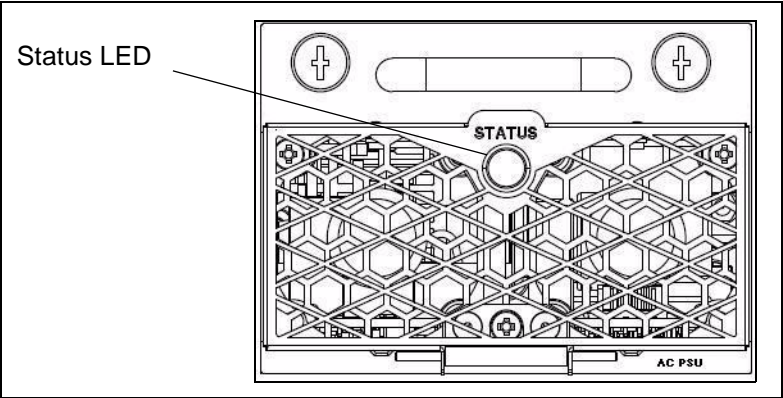

Figure C.4 - AC PEM Status LED
11. Check the PEM Status LED (**Figure C.4**) and take the appropriate actions as listed in **Table C.2**.